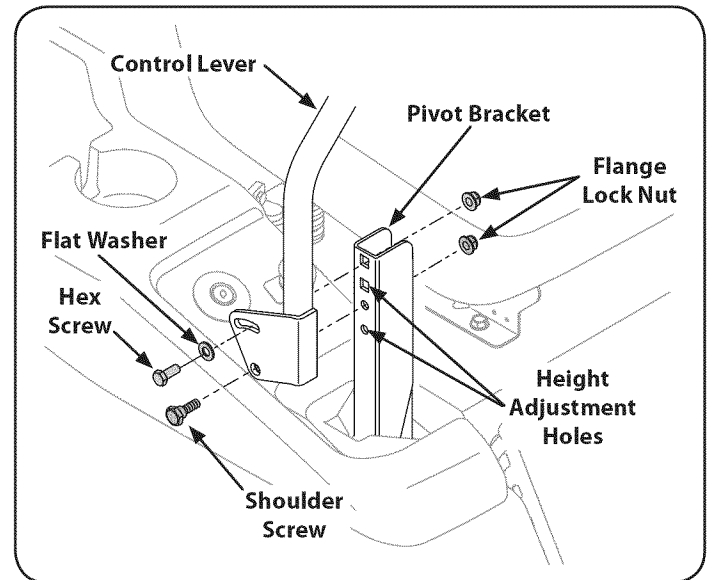

Figure 32
2. While supporting the control lever to keep it from falling, remove the hex insert flange lock nut and shoulder screw from the bottom of the control lever and pivot bracket. Refer to Figure 32.
6. Level the deck by using a wrench to turn the adjustment gear (found immediately behind the hex screw just loosened) clockwise to lower the left side of the deck, or counterclockwise to raise the left side of the deck. See Figure 32.